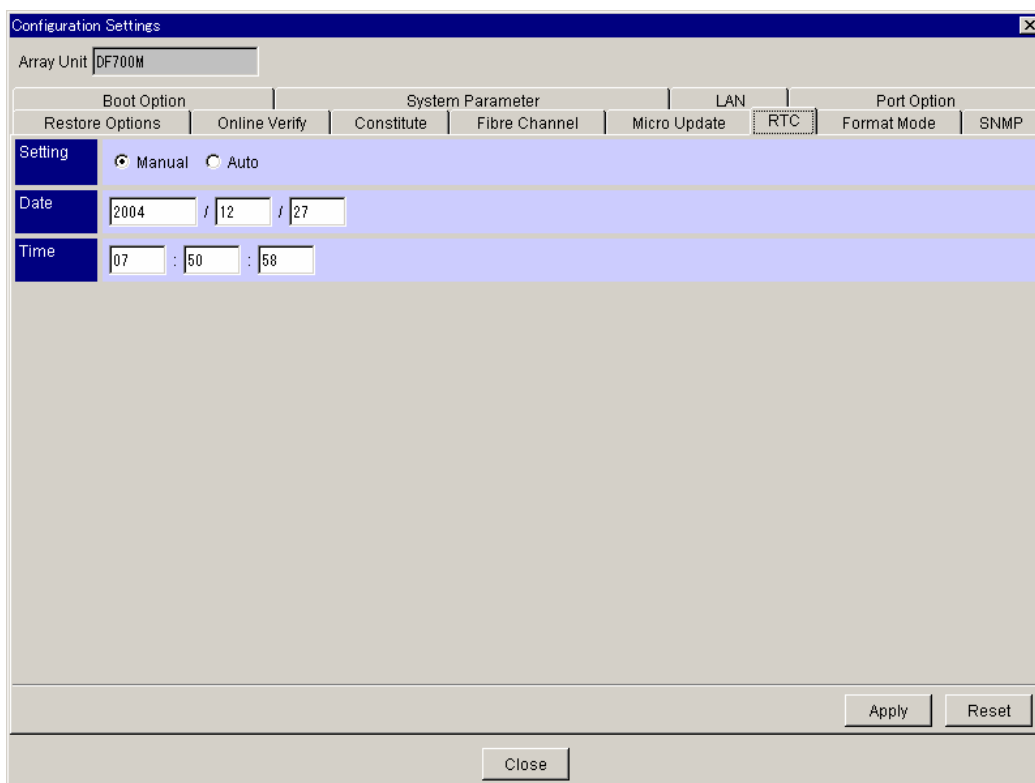

Figure 5.66 Setting RTC
3. Select the **RTC** tab (see Figure 5.66). For a detailed description of the **RTC** tab, refer to section 5.1.14.